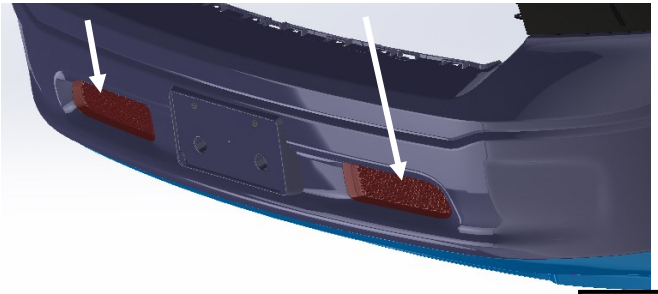

Fig.2
- B. **2013-2015 Models without tow hooks:** Remove the two plastic covers in the bumper by removing the (4) M6 fasteners from the inside of the bumper. Refer to **Figures 2 & 4.**